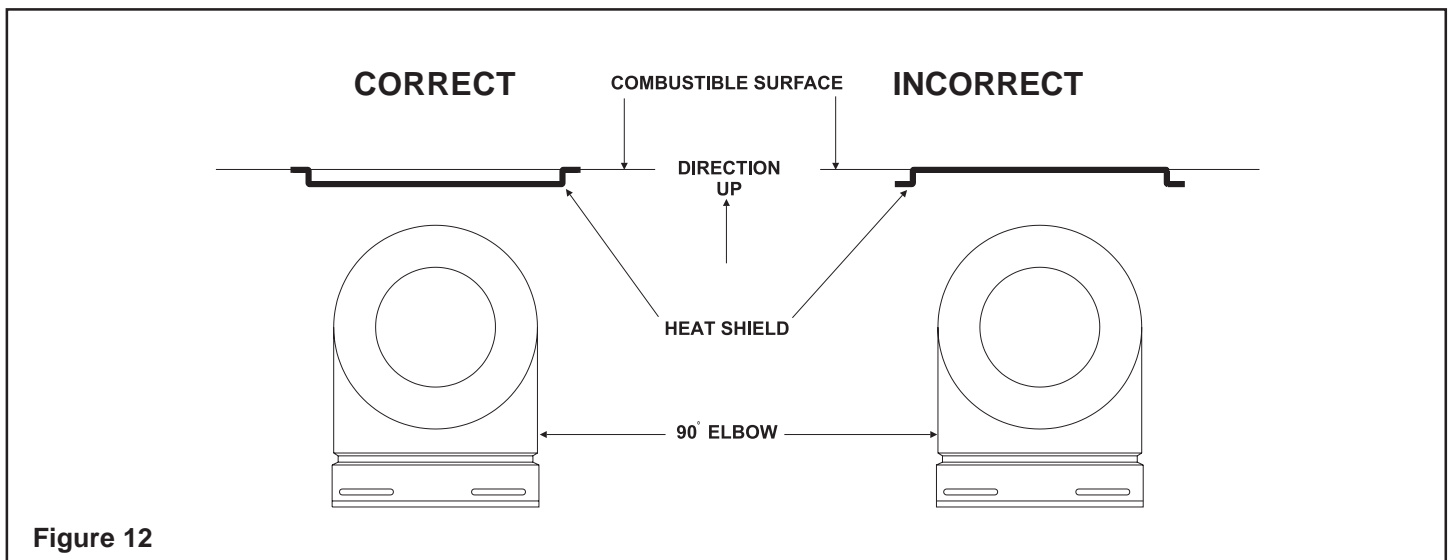

Figure 12
2. Fasten the shield in place using the four pilot holes provided in the part. The shield should be oriented such that the 13 1/8 inch dimension (longest dimension) is running in the same direction the elbow is pointing. The shield should be centered directly above the elbow, and positioned so that it creates a 1/2 inch airspace between the shield and the combustible surface. See Figure 12.